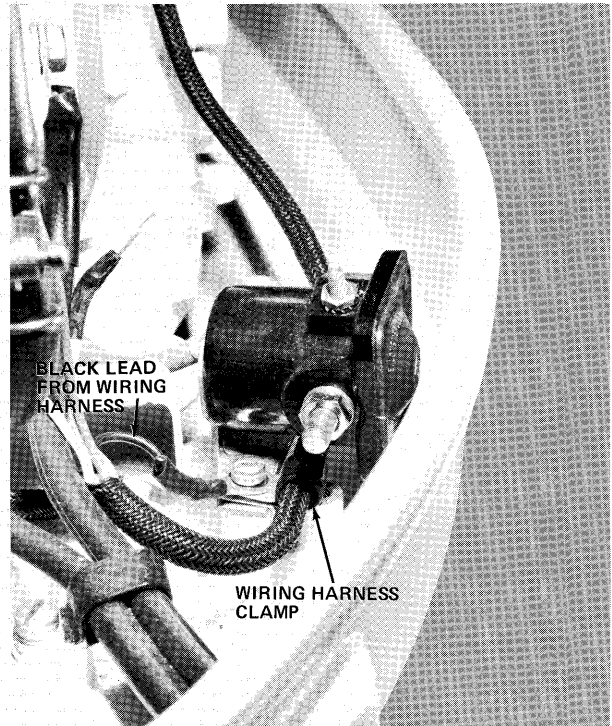

Figure 5 - Installing Starter Relay
- B. Install forward mounting screw, ground lead (from wiring harness) and wiring harness clamp and tighten securely. See figure 5.